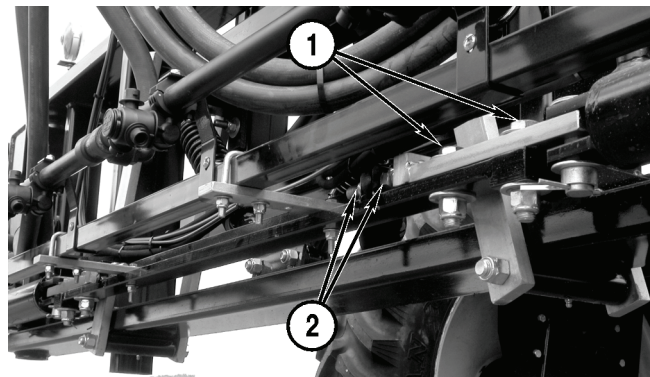

Figure 5-2
1. Loosen the boom lead bolts (**Figure 5-2, 1**) near the bottom of the boom rack.
- Turn the jam nuts (**Figure 5-2, 2**) toward the end of the boom to increase boom lead.